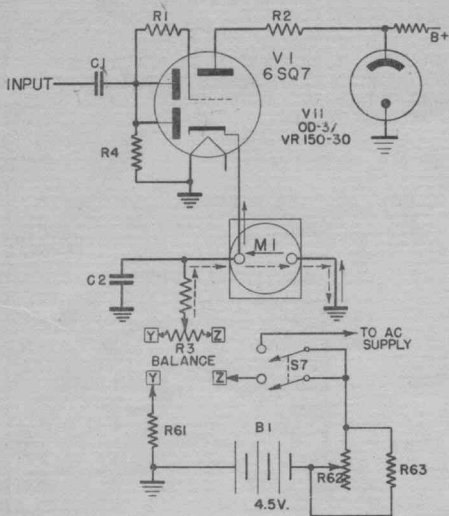

Figure 2.3 - Meter Circuit
a. Figure 2.3 illustrates the basic meter circuit which is common to the a-f voltmeter, r-f i-f voltmeter and the oscillator-high frequency voltmeter circuit. For this explanation all symbol designations have been arbitrarily assigned with no reference to any particular meter circuit. Input to the diode section, used for half-wave rectification of the input voltages, is through C1, which builds up a charge or voltage during the positive half-cycle equal approximately to the peak value of the a-c voltage being applied. This rectified signal or voltage of the duo-diode section is fed through isolating resistor, R1, to the grid of the triode section, used as the vacuum tube voltmeter, the indicating meter of which is in the cathode circuit. A d-c voltage from points Y-Z of the battery circuit is maintained across the meter as a bucking potential.